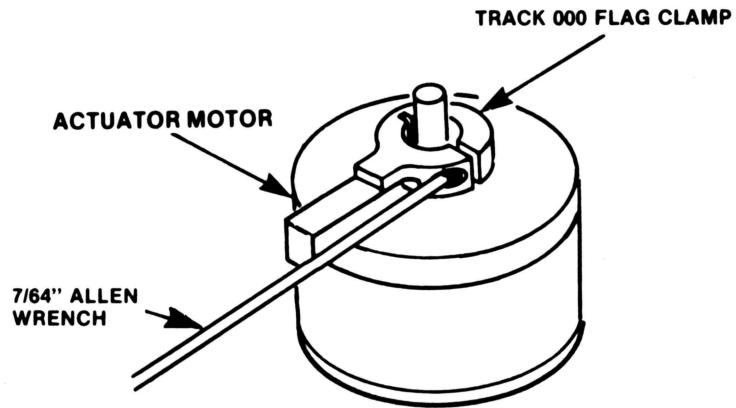

FIGURE 12. TRACK 000 FLAG COLLAR
- E. Loosen the allen head set screw on the Track 000 flag collar (P/N 60417) (ref. Fig. 12).